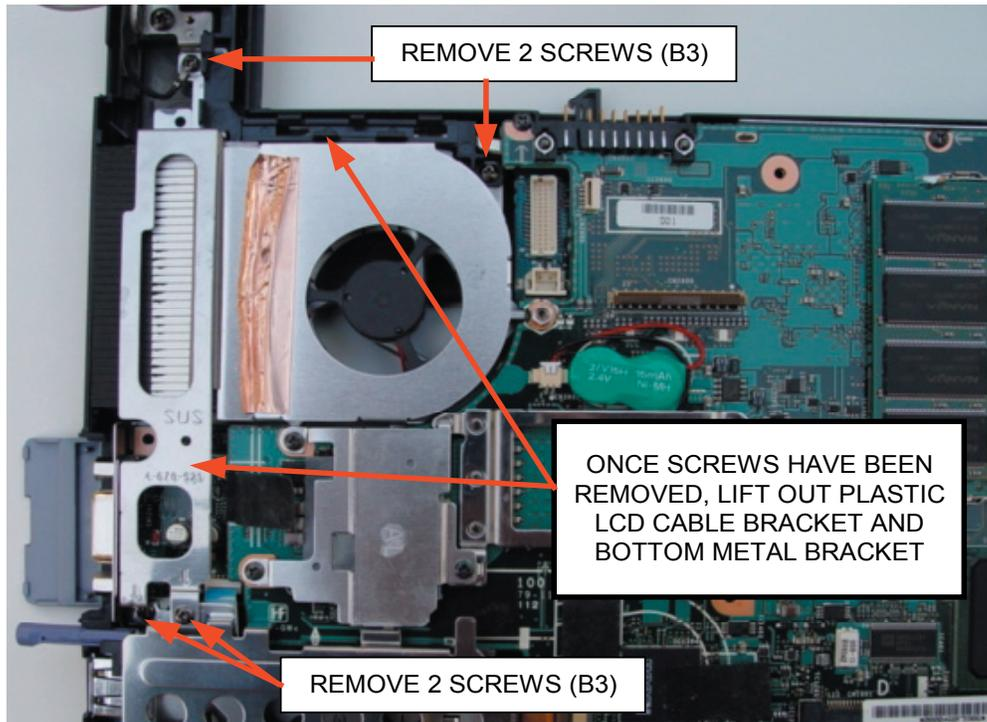

FIGURE 2-13 - LCD PANEL REMOVAL (step 2)
Step 2: Remove the 4 screws (B3) securing the ground cable at the LCD hinge and the plastic and metal brackets as shown in Figure 2-13. Lift the plastic bracket out first (the one that secured the LCD harness) and then the metal bracket.